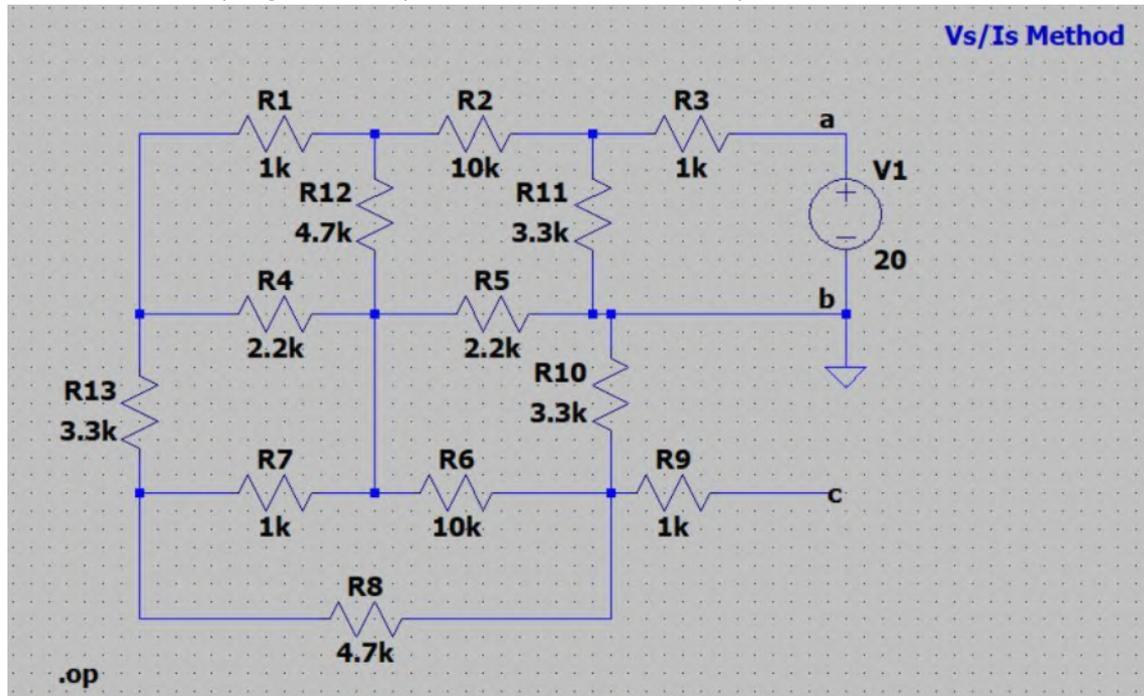

Figure: 13
- 1) Construct the circuit as shown in figure 13 in a new schematic.